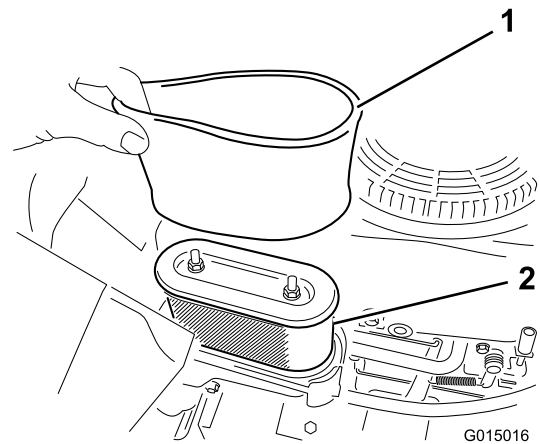

Figure 33
Note: If it is very dirty, replace the paper element (Figure 33).
5. Carefully remove the foam and paper filter elements from the air-cleaner housing (Figure 33).
1. Install the foam filter onto the paper filter (Figure 33).